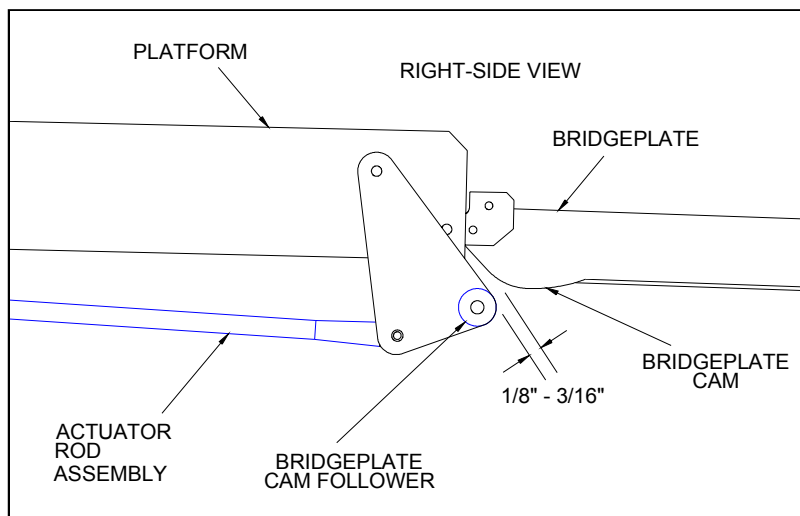

FIGURE 2-3: BRIDGEPLATE ADJUSTMENT
- Refer to **Figure 2-3**. Turn left-side rod-end to achieve a clearance of $1/8'' - 3/16''$ between bridgeplate cam and bridgeplate cam follower when shoulder bolt and spacer are installed. Tighten shoulder bolt, then tighten rod-end jam-nut.